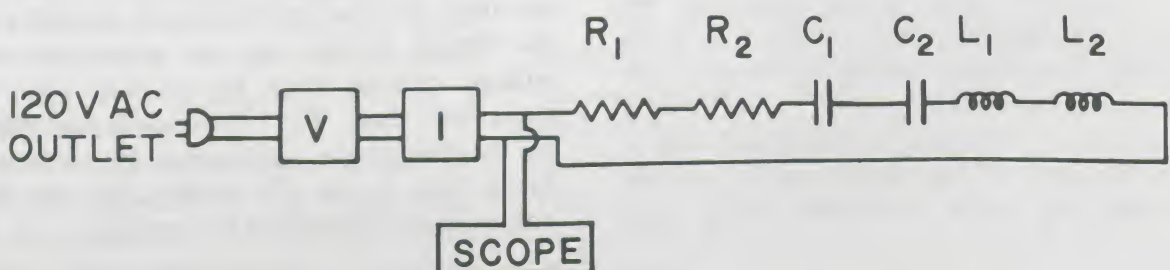

Figure 10. The series circuit is powered by a variable transformer (V) through an isolation transformer (I).
1. As before, connect an isolation transformer to the terminals of the variable transformer. Connect two resistors, two inductors, and two capacitors in series with the output terminals of the isolation transformer as shown in Figure 10. No two elements should be identical. Connect leads from the terminals of the isolation transformer to the *vertical deflection plate* terminals on the front of the oscilloscope.